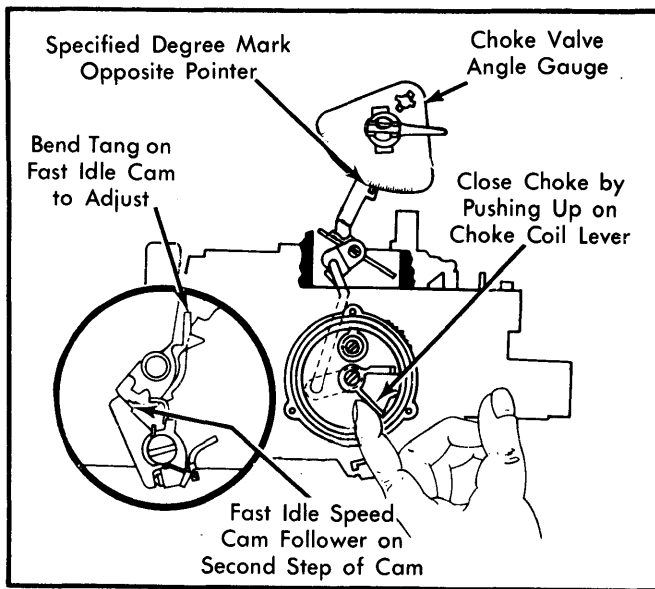

Fig. 5 Adjusting Choke Rod (Fast Idle Cam)
1) Place fast idle speed cam follower on second step of fast idle cam against shoulder of highest step. See Fig. 5.